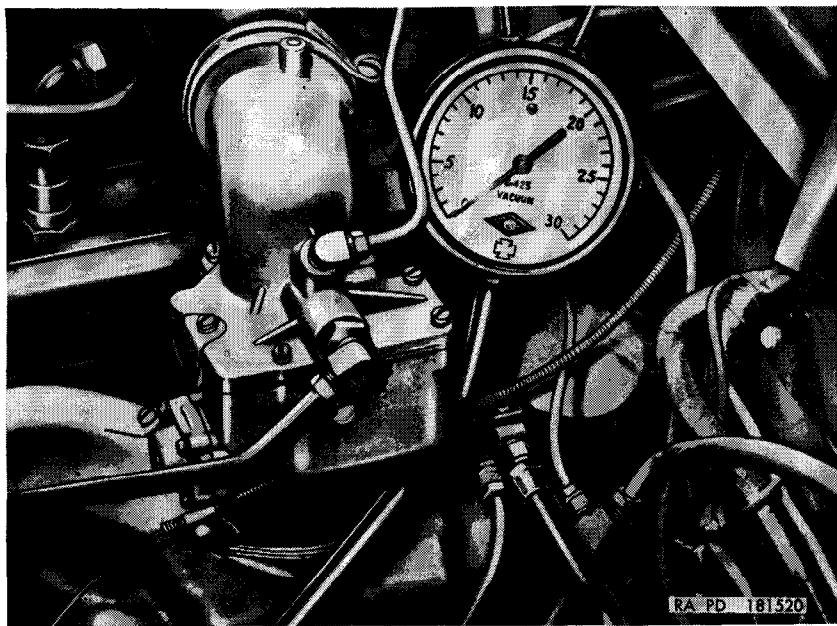

Figure 22. Testing engine vacuum.
- (1) *Incorrect carburetor adjustment.* Adjust carburetor (par. 129).
- (2) *Leaky fuel lines.* Inspect fuel lines and fittings. Replace lines or fittings if necessary (par. 135).
- (3) *Obstruction in fuel lines.* Disconnect fuel line at inlet side of fuel and vacuum pump. Remove fuel tank filler cap, and blow compressed air back through fuel line to remove any obstructions.
- (4) *Faulty fuel pump.* Perform fuel and vacuum pump test (b(2) above). Replace fuel and vacuum pump if necessary (par. 131).
- (5) *Faulty carburetor.* Replace carburetor (par. 129).
- (6) *Faulty engine vacuum.* Perform engine vacuum test as follows—disconnect fuel and vacuum pump vacuum line at elbow located on exhaust manifold, and install vacuum gage adapter in elbow (fig. 22). Start engine and run at idling speed until minimum operating temperature (160° F.) is reached. Make sure the carburetor is adjusted properly. Adjust if necessary (par. 127). With engine operating at normal idling speed, vacuum gage should show a reading of 18 to 21 inches of mercury. A pointer fluctuating between 10 and 15 inches of mercury may indicate a leaking valve or defective cylinder-head gasket. An abnormally low reading with the pointer steady may indicate a leak at the carburetor. Accelerate and decelerate engine rapidly. Vacuum should drop to approximately 2 inches of mercury with rapid acceleration, and should rise to 24 inches of mercury as acceleration is decreased quickly.